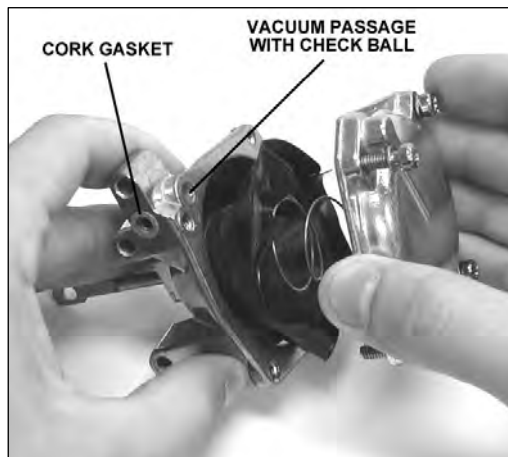

Figure 10
- Gently remove the cover. Take care as not to tear the diaphragm or lose the check ball (Figure 10).